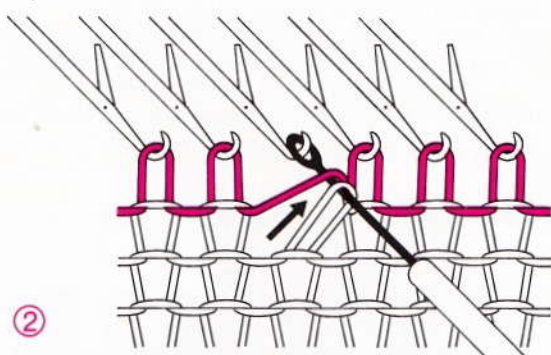

Fig. 213
- Place the eye of the transfer tool onto the hook of the empty needle (fig. 213).